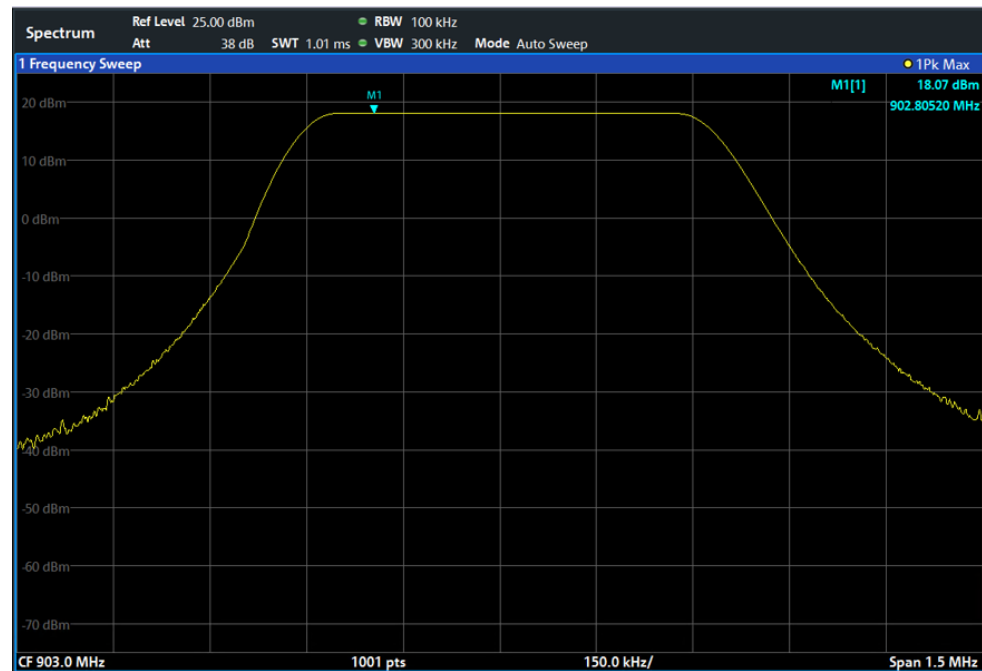

Figure 2-11: Measurement of maximum radiated power as reference value with  $f_{\text{TX}} = 903 \text{ MHz}$
8. Press the *Mkr* key, select *Peak* and note down the marker value as the reference value  $\text{Ref}_{\text{low}}$  (Figure 2-11).